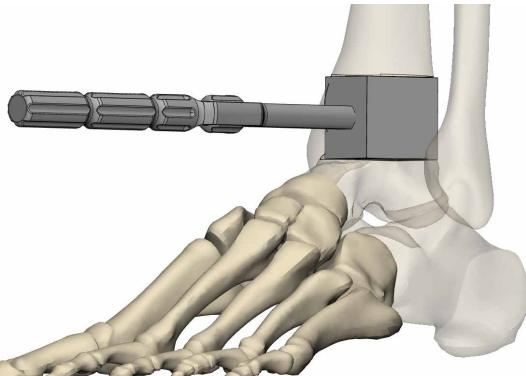

Fig. 18.1
**18.1** The trial footprint should provide adequate bone coverage between the trial and anatomy, maximizing cortical bone contact where applicable, without extending beyond the bone margins to avoid interaction with the adjacent soft tissues. (fig. 18.1). The trial height should provide bone contact both proximally and distally to ensure adequate apposition of the Ossera™ AFX to bone. With the trial in place, approximate soft tissue closure to ensure the implant will not require excessive tension on the soft tissue envelope.